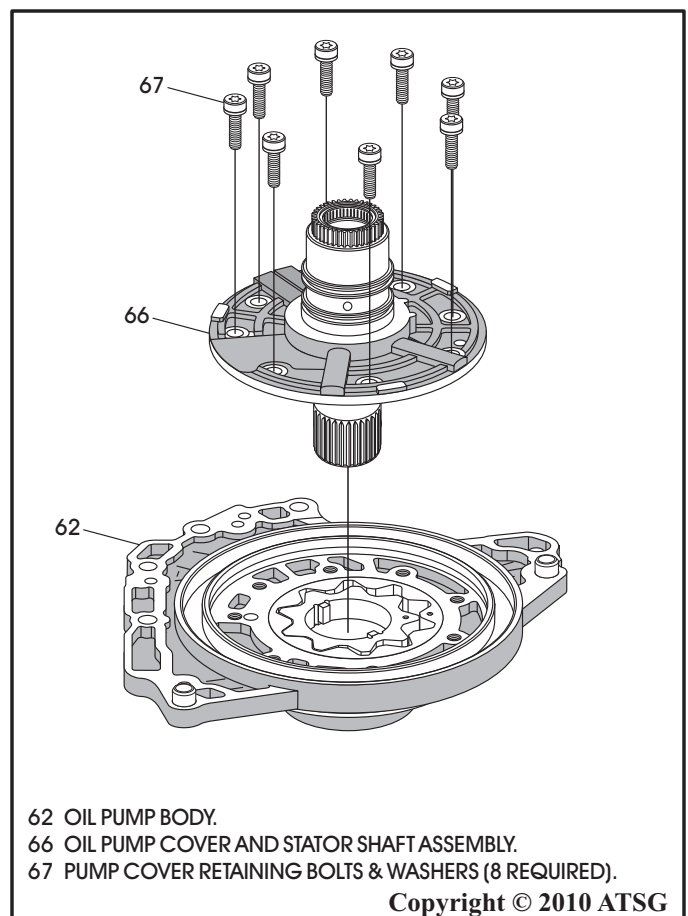

Figure 101
14. Install the oil pump cover into the oil pump body, as shown in Figure 101, and install the eight bolts and washers.